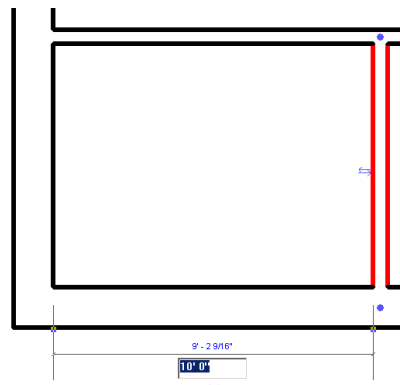

Figure 2-56 Specifying the distance
4. Now, click on the temporary dimension and enter the value **10'0"**. The interior wall is moved to the desired distance 10'0" from the interior face of the exterior wall, as shown in Figure 2-56.